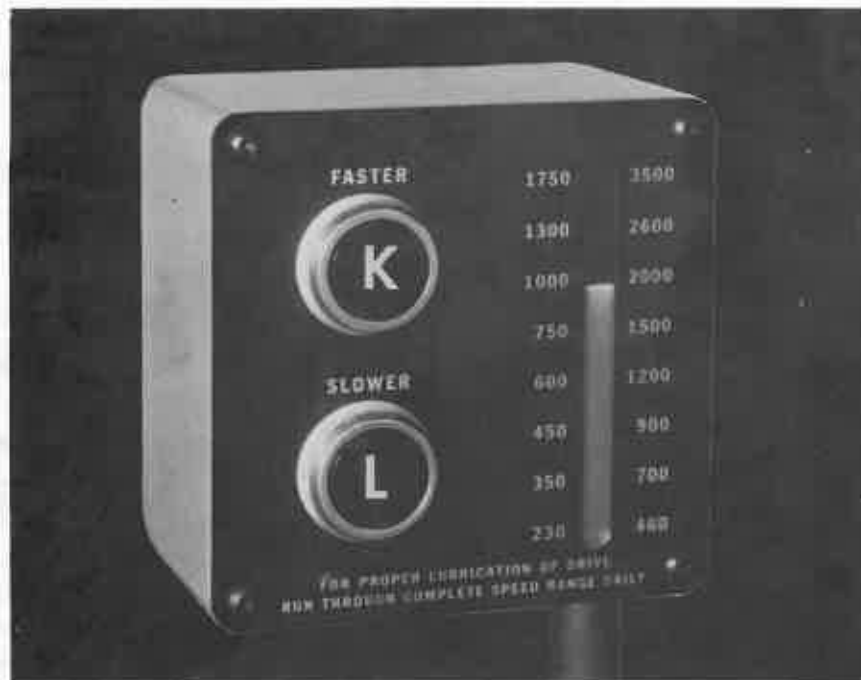

Figure 7
**TO CHANGE SPINDLE SPEED,** start spindle and push button "K", Figure 7, to increase speed and button "L" to decrease speed. Hold button until desired speed is indicated in sight window. Speeds in left-hand column are obtained with lever "H" in "Low" position, and speeds in